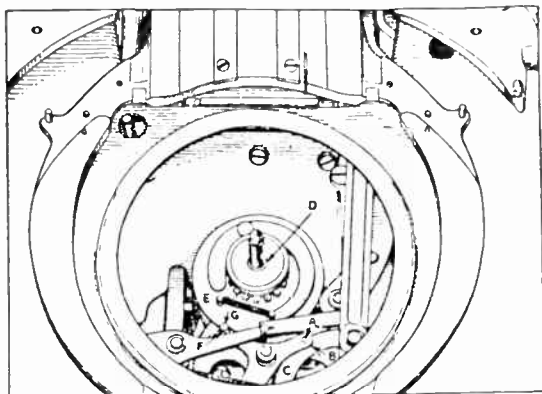

Fig. 18 - Method of Timing Gears
- b. Turn the mechanism by hand until the roller "A", Fig. 18, is engaged in the slot "B" of cam gear "C".